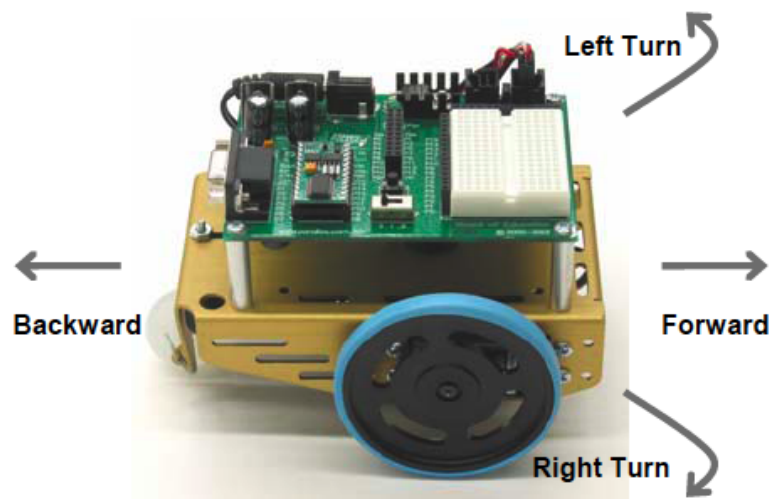

Figure 12: Pulse width versus rotational velocity
4. Run the code. Make sure that the wheels rotate toward the front of the Boe-Bot for 3 seconds, stop, and then rotate the opposite direction for 3 seconds. The wheels should first rotate in a manner as to move the Boe-Bot forward (The side closest to the breadboard is the front. See Figure 12), and then in reverse. If everything works as expected, move on to the next step.